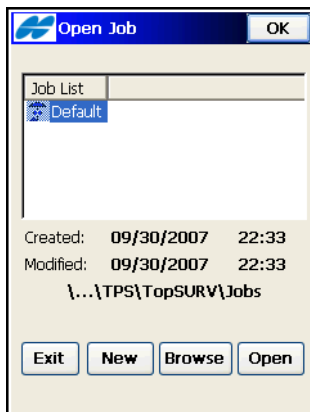

Figure 1-3. Open Job
Initially, TopSURV opens only a Default job created upon program installation (Figure 1-3). On the *Open Job* screen do the following:
- To open a job created in a previous version of TopSURV, tap **Job ▶ Open Job**, then tap the **Browse** button in the *Open Job* screen (Figure 1-3 on page 1-3). Then select the *Ts6 Job Files (*.tsv)* type, navigate to the desired tsv job, highlight it, and press **OK**.